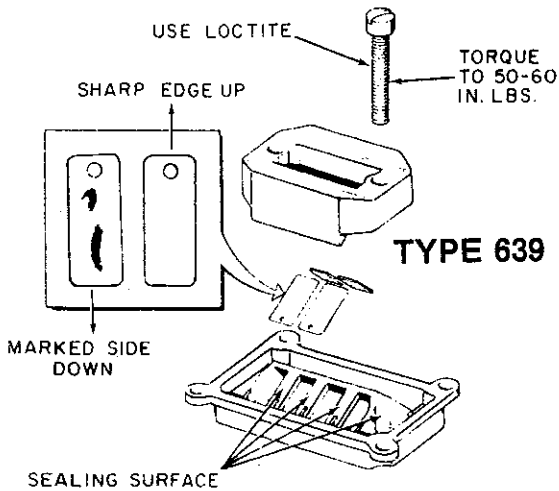

Figure 8
- B. Observe the following and refer to Figures 8, 9, and 10 when servicing the reed plate assembly.
- (1) The reed plate assemblies used on type 639 and 640 engines have replaceable reed pedals. Be careful to assemble reed pedals with correct side toward sealing surface as shown in Figure 8. The rough (cut) edge of reed should face away from sealing surface. Screws securing reed pedal stops on type 639 should be coated with Loctite, then torqued to 50-60 inch pounds (5.6-6.8 Nm). Torque the reed stop retaining screws on type 640 engines to 6-9 inch pounds (0.68-1.02 Nm) after coating threads with Loctite.